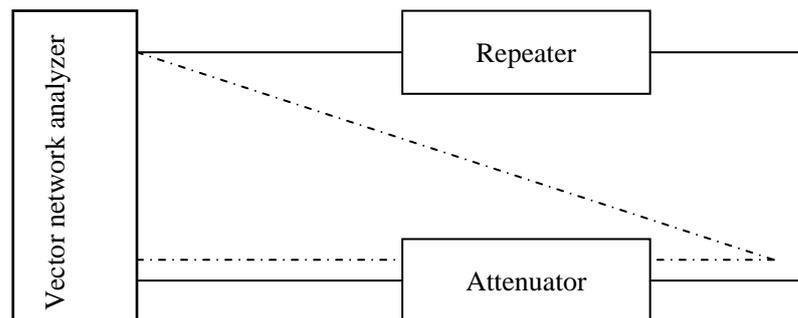

figure 4.3.2
1. Connect testing system according to the real line in figure 4.3.2;
1. Connect the testing system according to the real line in figure 4.3.2;
2. Set the central frequency of network analyzer as the central frequency of repeater, frequency span as the operating band width of repeater, and the output level as the maximum input level of repeater. Calibrate delay in transmission measurement method according to the dotted line in the figure 4.3.2;